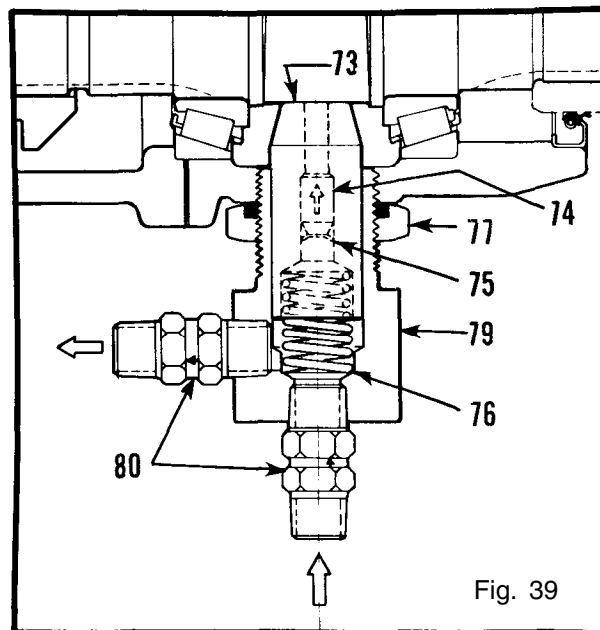

Fig. 39
11. The PTO unit includes an oil pump that consists of items 73 through item 80 on Page PM12. Also refer to Fig. 39. The piston (Item 73) is driven by the eccentric section of shaft (Item 65). A check valve (Item 74) is retained within the piston by a spring type retaining ring (Item 75). This check valve must be installed with the free flow direction and arrow direction pointing toward the PTO shaft. This allows a small portion of the oil pump output to be directed onto the shaft's eccentric surface. Screw nut (Item 77) onto cylinder (Item 79) with nylon portion pointing away from the hexagon section of the cylinder. Coat
the piston, check valve and retaining ring assembly with transfer case lubricant. Put the spring (Item 76) into the counterbore of the piston and then put the cylinder over the spring and piston. Push the piston into the cylinder until the end of the cylinder is just even with the port in the side of the cylinder. The piston should move freely without binding. Screw the cylinder into the PTO bearing carrier (See Fig. 39). Rotate the PTO shaft to place the high point